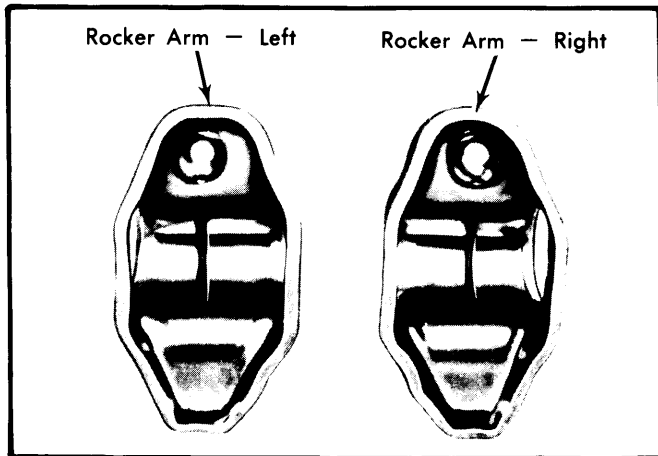
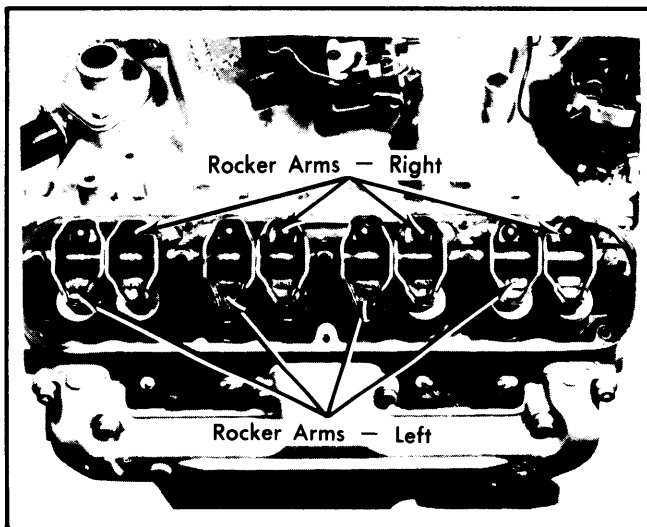

Fig. 6 Rocker Arm Identification
Fig. 7 Rocker Arm Location on Rocker Arm Shaft
1) Rocker arms are stamped steel type. Arms are mounted on shaft attached to cylinder head at five support brackets which are cast into cylinder head. Rocker arms have right and left positions. See Fig. 6. If rocker arm assemblies were disassembled, reassemble with rocker arms in correct position on shaft. See Fig. 7.